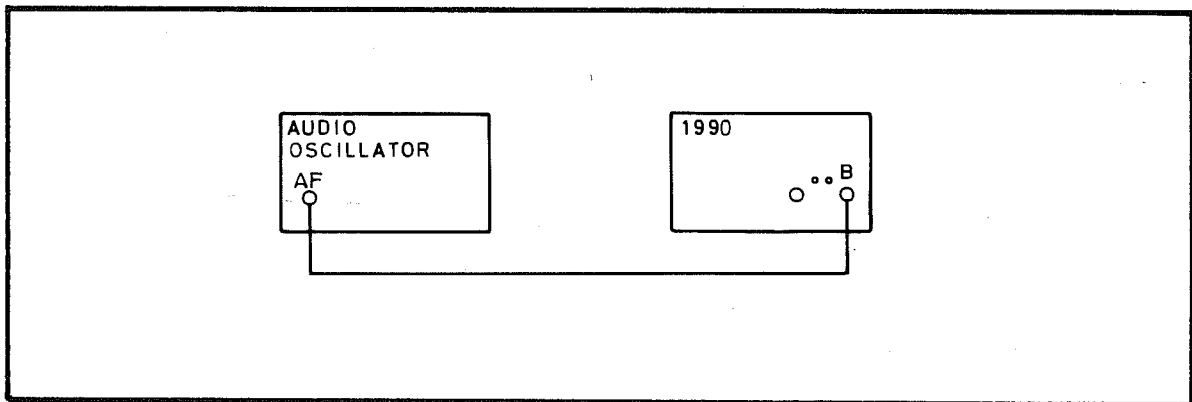

Fig 7.20 Connections for Channel B Sensitivity PVP (Part 2)
- (1) Connect the test equipment as shown in Fig 7.20.
- (2) Set the audio oscillator output to the frequencies shown in Table 7.9 in turn. Set the 1990 resolution to the corresponding value.
- (3) At each frequency, determine the minimum input level to the 1990 that gives stable counting. Verify that this is not more than the level shown in the table.
- (4) Press DELAY
- (5) Disconnect the test equipment.